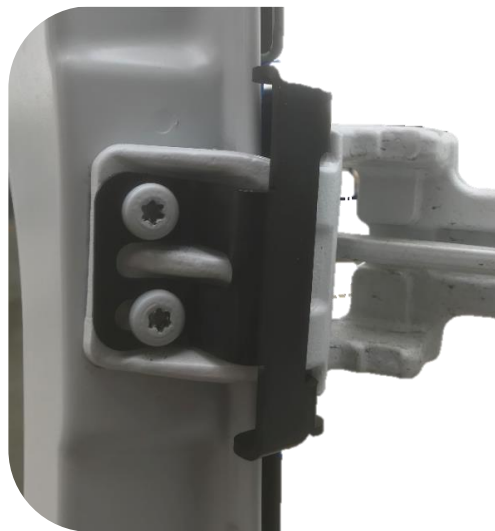

Figure 7: Installed Upper Bracket
13. Confirm that bracket clears the rear door glass (if applicable) and use the saved factory hardware to reinstall the hinge and upper bracket (Figure 7).